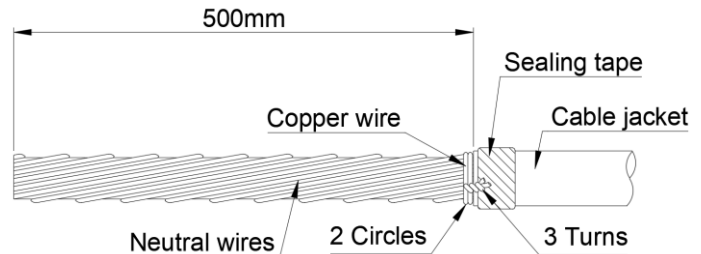

Fig.4
- Measure down from top of the cable as shown in Fig.4 . Remove cable jacket to expose neutral wires.